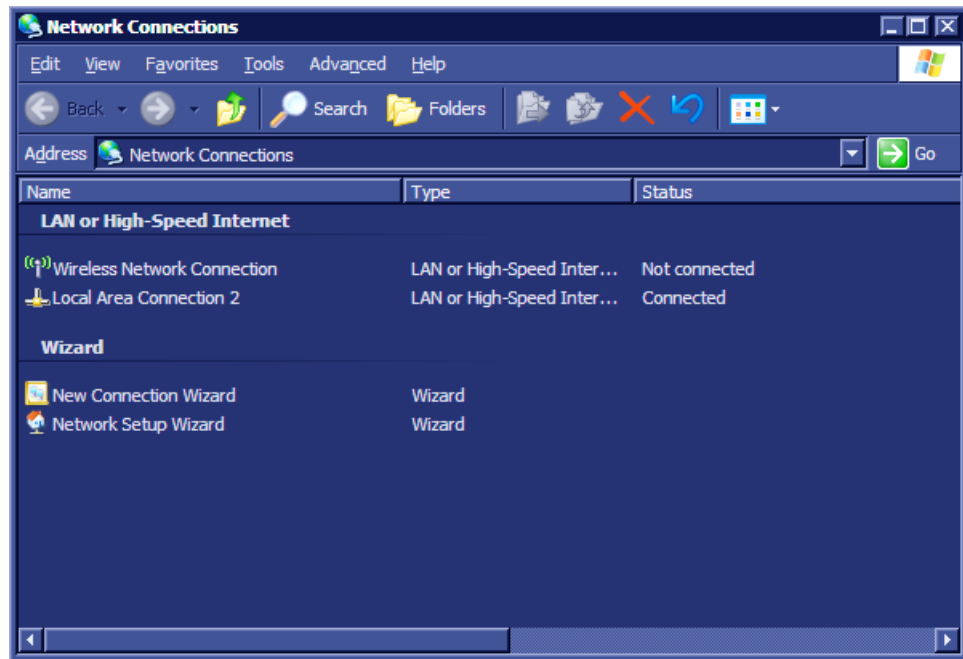

Figure 3-94 Network Connections
- 2.) Click **Advanced Settings** to open the Network Connections screen - see Figure 3-94.